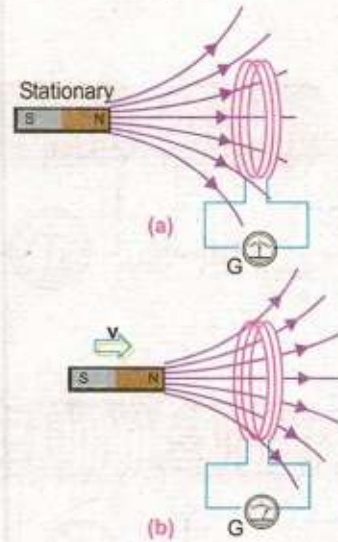

Fig. 15.2
1. Fig. 15.2 (a) shows a bar magnet and a coil of wire to which a galvanometer is connected. When there is no relative motion between the magnet and the coil, the galvanometer indicates no current in the circuit. As soon as the bar magnet is moved towards the coil, a current appears in it (Fig 15.2 b). As the magnet is moved, the magnetic flux through the coil changes, and this changing flux produces the induced current in the coil. When the magnet moves away from the coil, a current is again induced but now in opposite direction. The current would also be induced if the magnets were held stationary and the coil is moved.